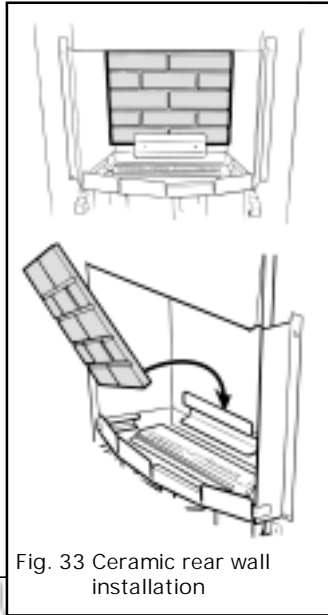

Fig. 33 Ceramic rear wall installation
**10.1** With its feather edge at the top, place the ceramic rear wall into the channel at the back of the firebox. Push the wall flat against the rear of the fire box. (See figure 33).